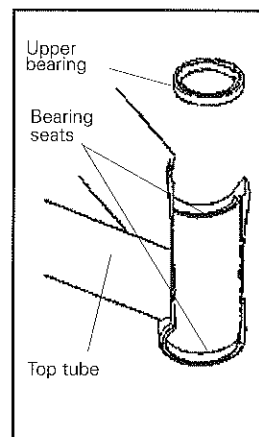

Fig. 52
1. Use a sharp knife to scrape off any residual adhesive from the bearing seat surfaces (Fig. 52).